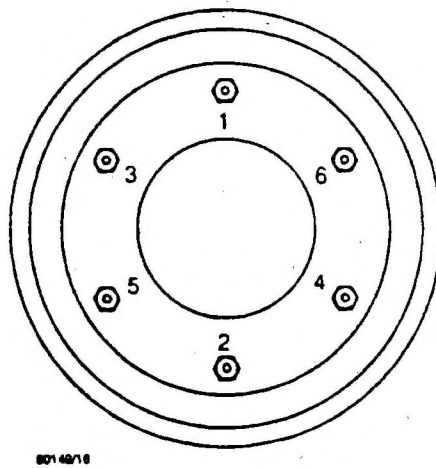

Fig 1 Wheel nut tightening sequence
8.8 Fit the wheel nuts and tighten to torque load 472 to 544 Nm (350 to 400 ft lbs) following the sequence shown in Fig 1. It may be necessary to lower the wheel into contact with the ground in order to achieve the torque values quoted.